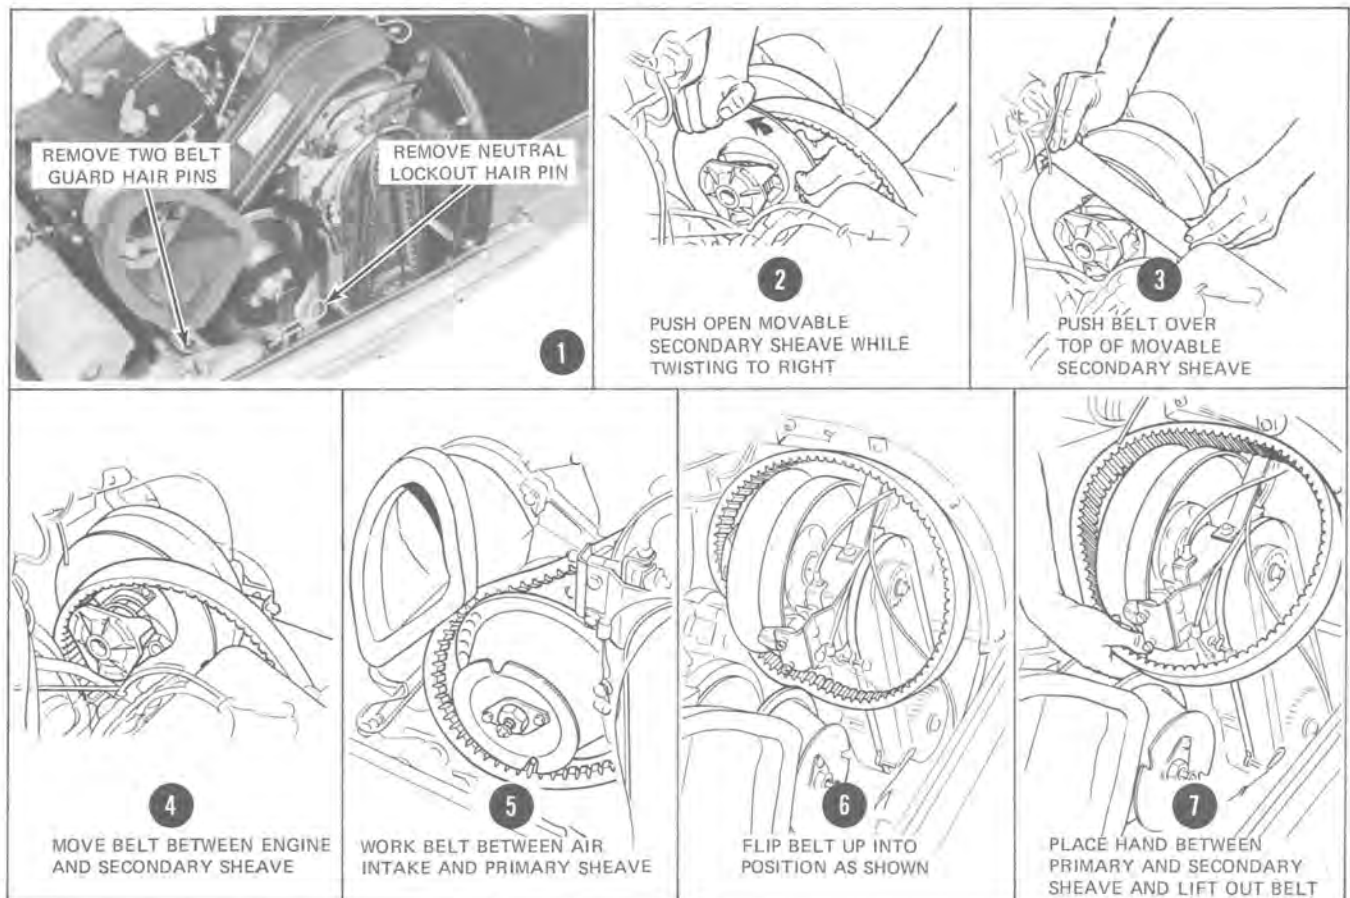

Figure 10-1
2. Reverse steps 7, 6, 5 and 4 as shown in Figure 10-1.